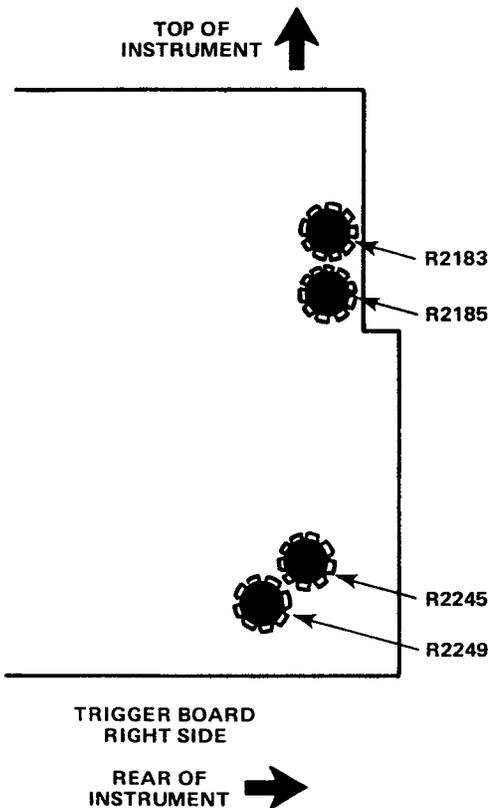

Figure 5-20. Trigger hysteresis and slope centering adjustment locations.
m. Trigger Hysteresis and Slope Centering (Figure 5-20).
(1) Set controls as follows: